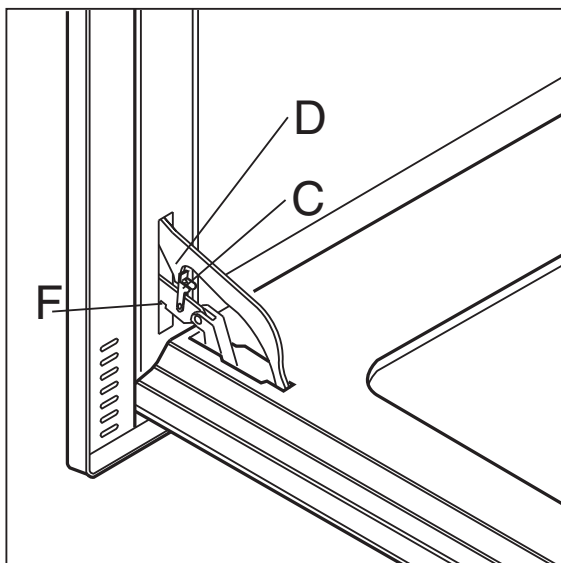

Figure 4
For ease of intensive cleaning it is practical to dismantle the door following these instructions: insert the hook (C) (Fig. 4) in the hinge sector (D). Put the door in half-open position and, using both hands, pull the small door towards you until it uncouples from the connection. To reassemble the door, proceed in inverse order, taking care to insert the two guides (F) correctly.